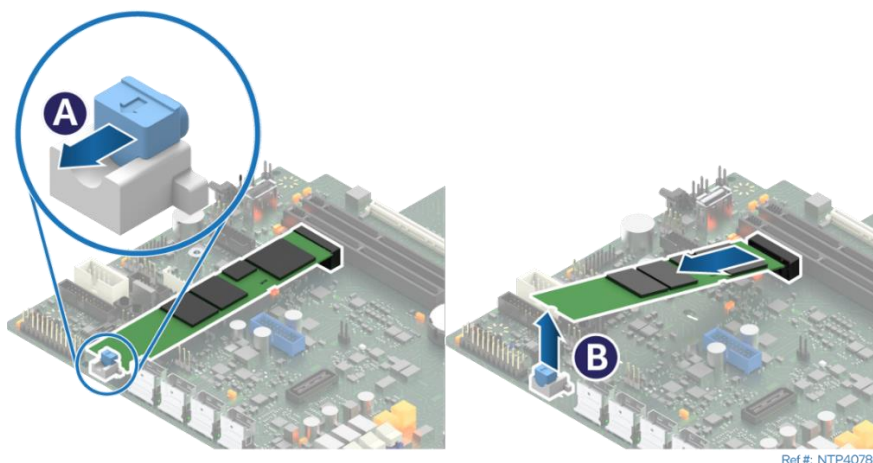

Figure 90. M.2 SSD Removal
5. Remove the M.2 SSD from the server board (see Figure 90).